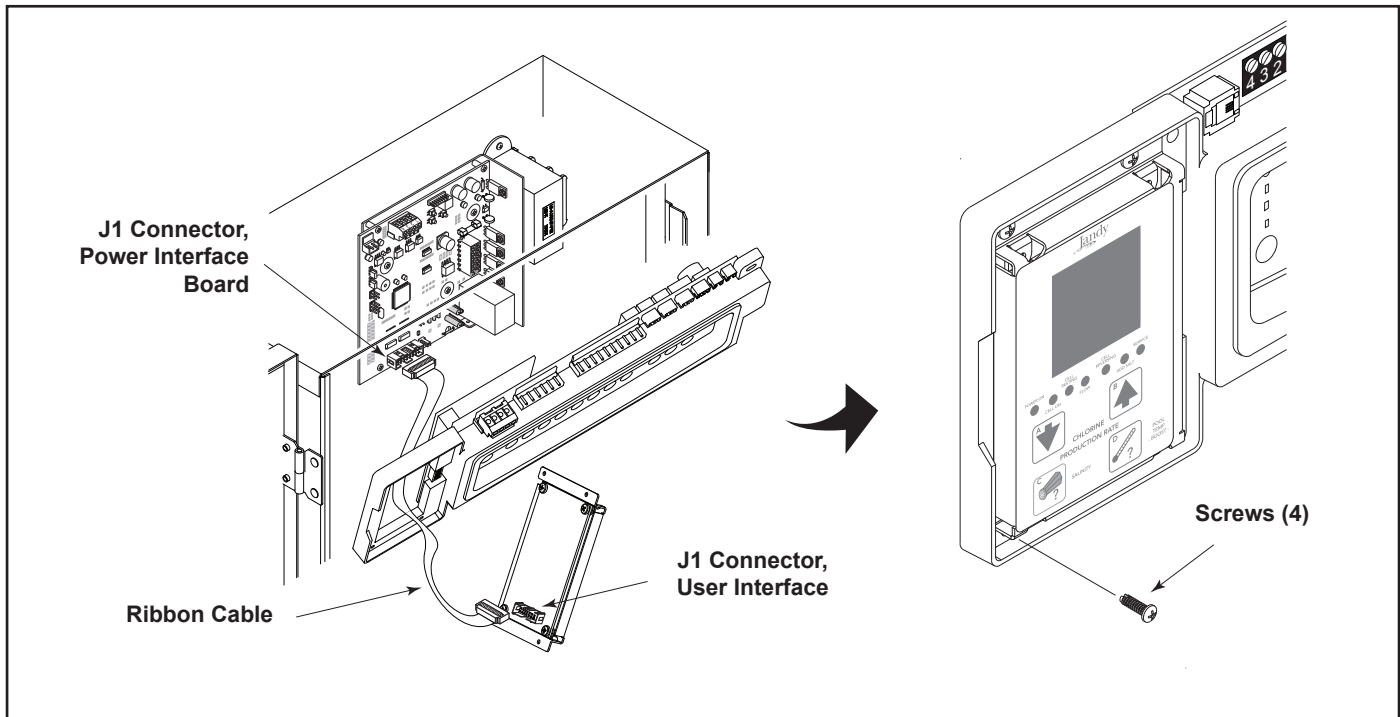

Figure 9. Installation of the User Interface
1. On the chlorine generator user interface board, connect one end of the ribbon cable to the 16-pin J1 connector as shown in Figure 9.
3. Attach the chlorine generator user interface board to the bezel using the four (4) screws provided.